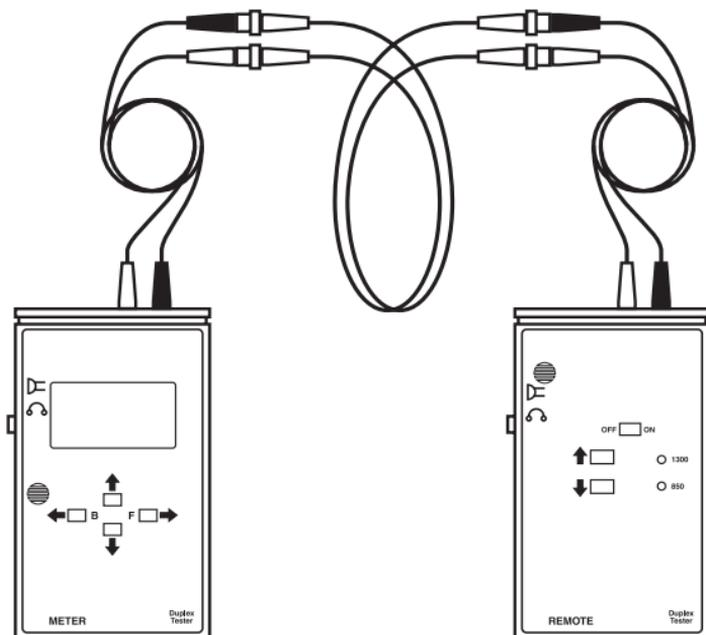

Figure Q-14. Testing other cables.
- Test other cables. Disconnect the mating adapters and attach a cable to test between the launch and receive cables (see **Figure Q-14** on the next page). Add the cable name to the database. Choose Test a Cable from the main menu, choose the cable you just added to the database, and press the F button to test.